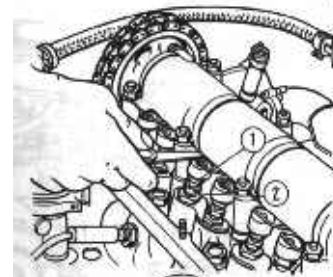

Fig 33. Adjusting valve clearances:
- Adjust the rocker-to-cam clearances of the exhaust valve on the No. 4 cylinder (8th cam) and of the intake valve on the No. 3 cylinder (6th cam); for this purpose, loosen locknut 2 (Fig. 33) and rotate adjusting bolt 1 to set the required clearance, using a flat feeler gauge inserted between the cam and the rocker (the feeler gauge should move in this case with a slight biting)